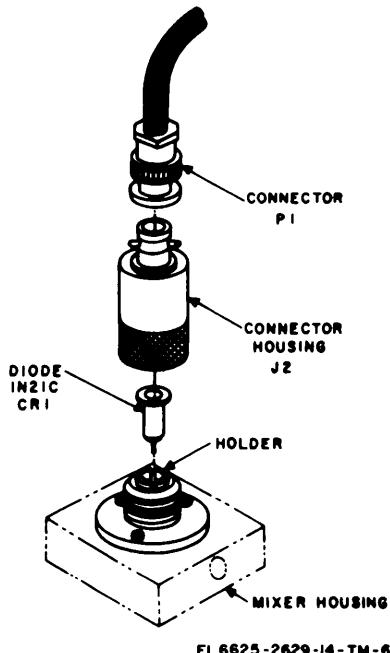

Figure 7-7. Replacement of diode CR1.
- a. Disconnect the cable at the mixer housing connector P1 (fig. 7-7).
a. Disconnect the cable at the mixer housing connector P1 (fig. 7-7).